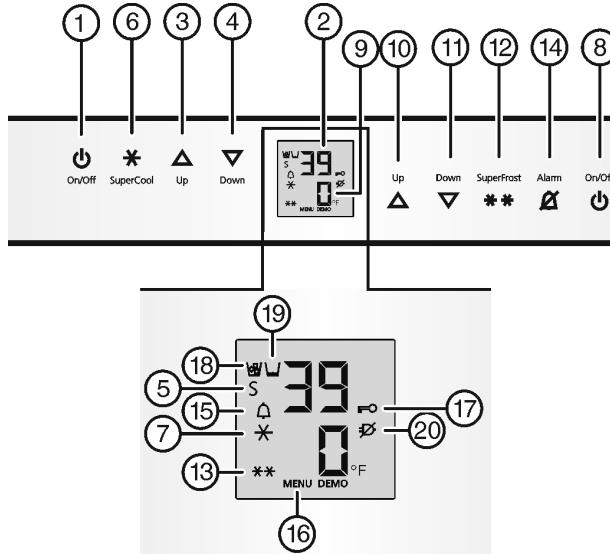

Fig. 3
- Press On/Off button, freezer compartment Fig. 3 (8).
- Press Fridge compartment On/Off button Fig. 3 (1).
- Activate setting mode: Press SuperFrost button Fig. 3 (12) for about 5 seconds.
- The Menu symbol Fig. 3 (16) lights up.
- Using Freezer compartment Up button Fig. 3 (10)/Freezer compartment Down button Fig. 3 (11) select °.
- To confirm: Briefly press SuperFrost button Fig. 3 (12).
- Using Freezer compartment Up button Fig. 3 (10)/Freezer compartment Down button Fig. 3 (11) select °F or °C.
- To exit setting mode: Press Freezer compartment On/Off button Fig. 3 (8).
- Activate setting mode: press and hold the SuperFrost button Fig. 3 (12) for approximately 5 s.
- Using the Freezer compartment Up button Fig. 3 (10) or Freezer compartment Down button Fig. 3 (11), select **c**.
- Press the SuperFrost button Fig. 3 (12) briefly to confirm.
- To switch on the child-proof lock, press the SuperFrost button Fig. 3 (12) briefly.
- The Child safety symbol Fig. 3 (17) lights up. **c** flashes on the display.
- To switch off the child-proof lock, press the SuperFrost button Fig. 3 (12) briefly.
- The Child safety symbol Fig. 3 (17) goes out. **c** flashes on the display.
- Deactivate setting mode: press the Freezer compartment On/Off button Fig. 3 (8).
- Press Alarm button Fig. 3 (14).
At the same time, the Alarm symbol Fig. 3 (15) will flash.